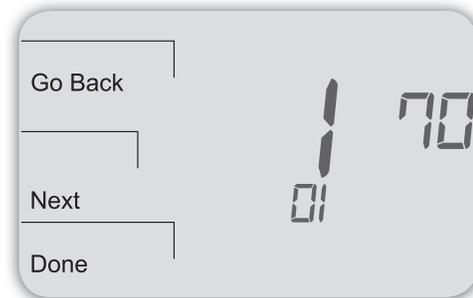

Figure 23.
4. **Go to Service Menu 170.** Select option "01" to enable the Indoor Sensor (see Fig. 23).